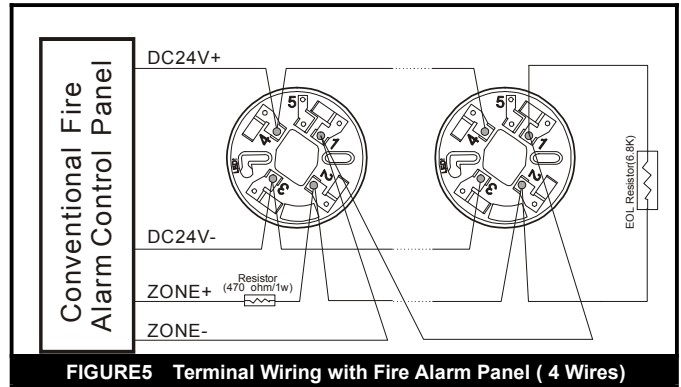
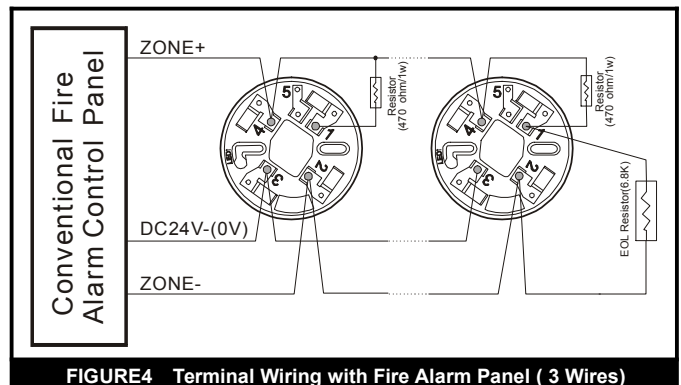

FIGURE5 Terminal Wiring with Fire Alarm Panel ( 4 Wires)
FIGURE4 Terminal Wiring with Fire Alarm Panel ( 3 Wires)
6. The detector can be connected with conventional alarm panel as Figure 4 or Figure5. One 470 ohm resistor should be used.